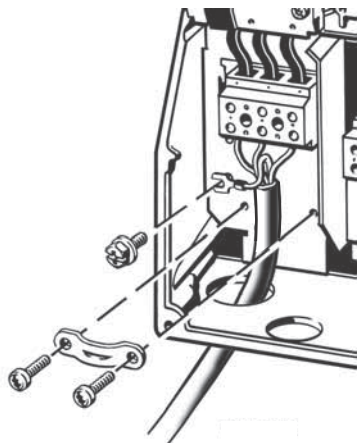

Fig. 14 Mains connection, B1 and B2
1. Connect the ground conductor to terminal 95 (PE), fig. 14.